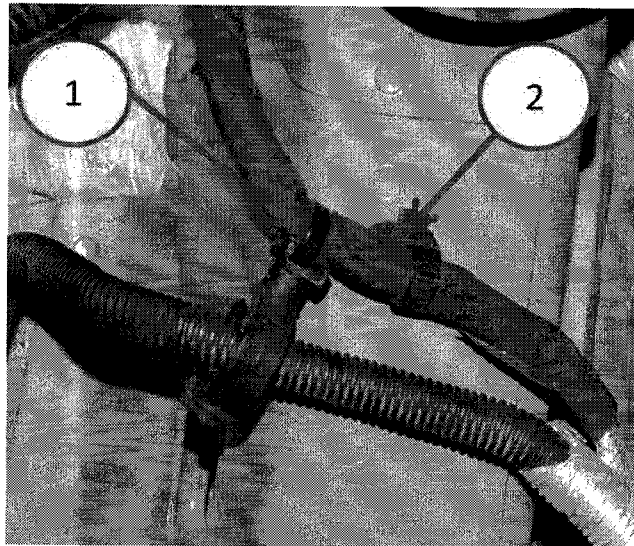

Fig. 3 CUT THE EXISTING RETAINERS
4. Carefully cut straps holding DEF injector wire harness to hose (Fig. 3).
5. Carefully cut strap holding DEF injector wiring to rail clip and remove clip from hole in the frame (Fig. 3).